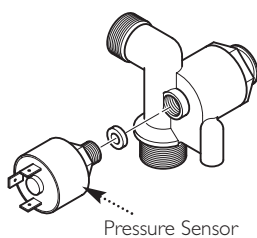

Fig. 74
14.9 Water Pressure Sensor (Fig. 74)